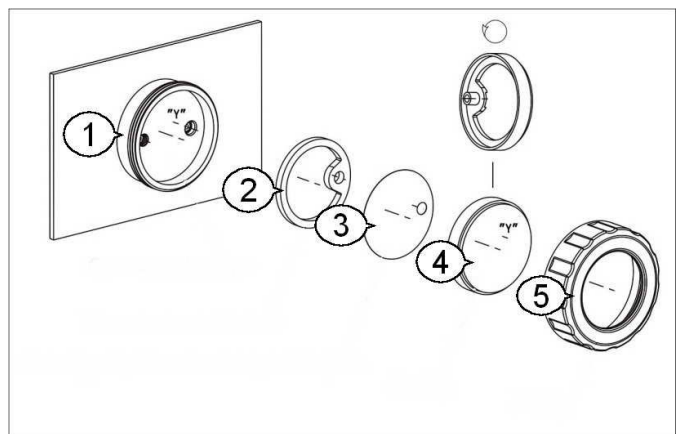

Figure 77 – Disassembled outer filter
8. Install the assembled cartridge into the filter base (1), ensuring the correct positioning of the elements by aligning the “Y” axes as shown in Figure 77;